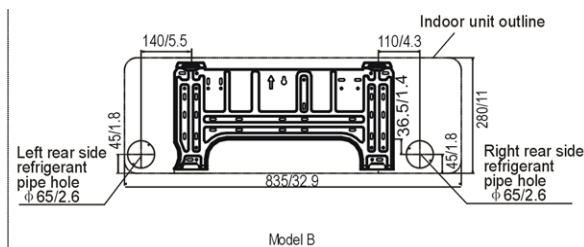
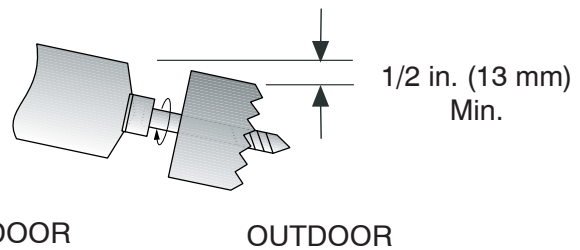

Fig. 15 - Mounting Plate - Model sizes 09, 12
Fig. 18 - Drill Holes
1. Use the mounting plate to determine the pipe hole position. Drill pipe hole diameter per values given in Fig. 15 through 17. The outside pipe hole is 1/2-in. (13 mm) min. lower than inside pipe hole, so it slants slightly downward (see Fig. 18).